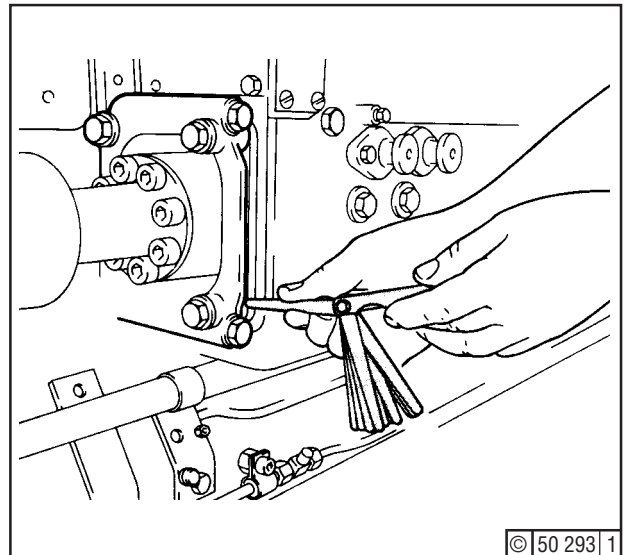

Fig. 10
- Check with feeler gauge 0.05mm between: retainer - crankcase, retainer - injection pump - Fig. 10.